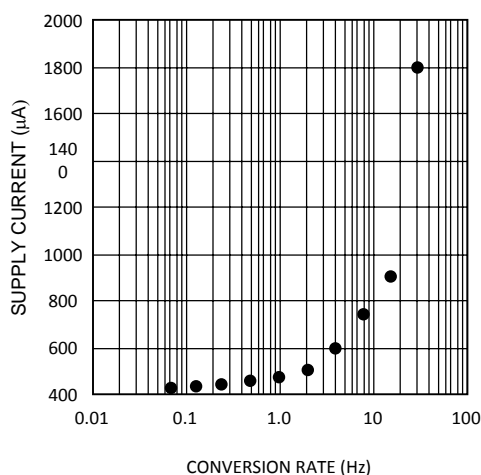

Figure 4. Conversion Rate Effect On Power Supply Current
The LM89 takes approximately 31.25 ms to convert the Local Temperature (LT), Remote Temperature (RT), and to update all of its registers. Only during the conversion process the busy bit (D7) in the Status register (02h) is high. These conversions are addressed in a round robin sequence. The conversion rate may be modified by the Conversion Rate Register (04h). When the conversion rate is modified a delay is inserted between conversions, the actual conversion time remains at 31.25 ms. Different conversion rates will cause the LM89 to draw different amounts of supply current as shown in Figure 4.